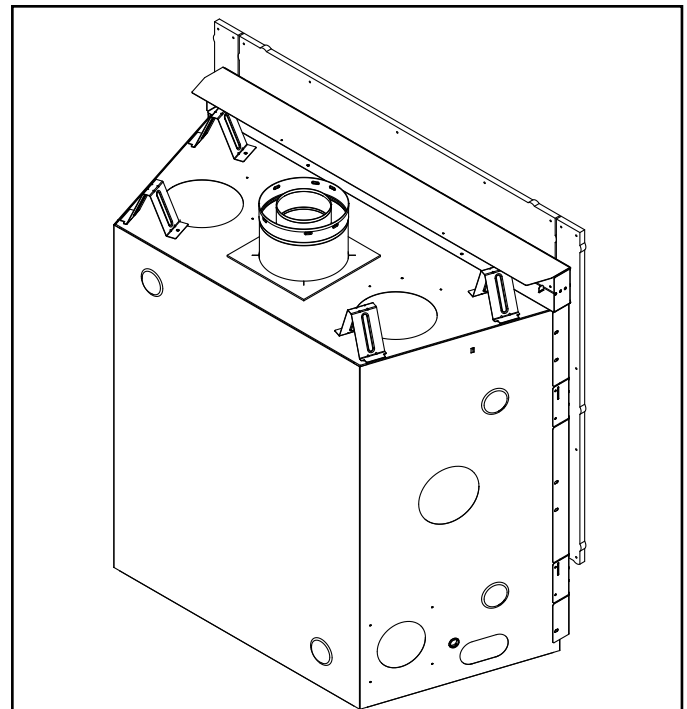

Figure 6.4 RAVE32-IFT-B - Shipping Support and Seal Cap Removed
2. Remove and discard seal cap. See Figure 6.4.